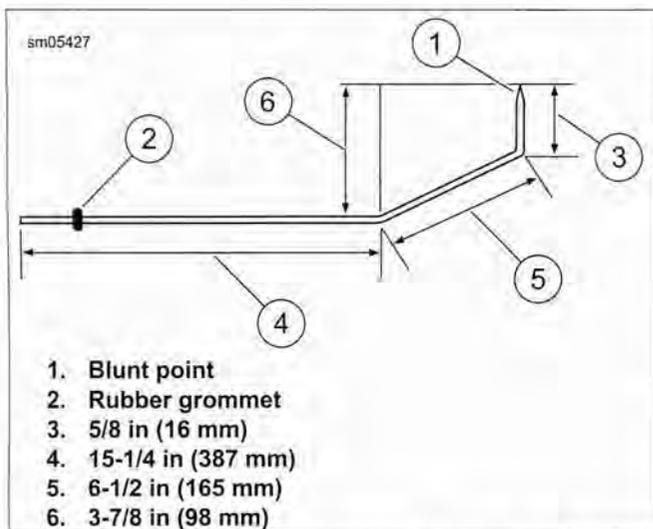

Figure 1-56. Wheel Alignment Tool: XR 1200X
3. **For XR 1200X:** See Figure 1-56. Fabricate an alignment tool using a piece of 1/8-in (3.175 mm) diameter aluminum welding rod 22.375 in (568 mm) long. Grind one end down to a blunt point. Use pliers to bend rod as shown. Place a snug-fitting rubber grommet (2) on rod to act as a slide measurement indicator.